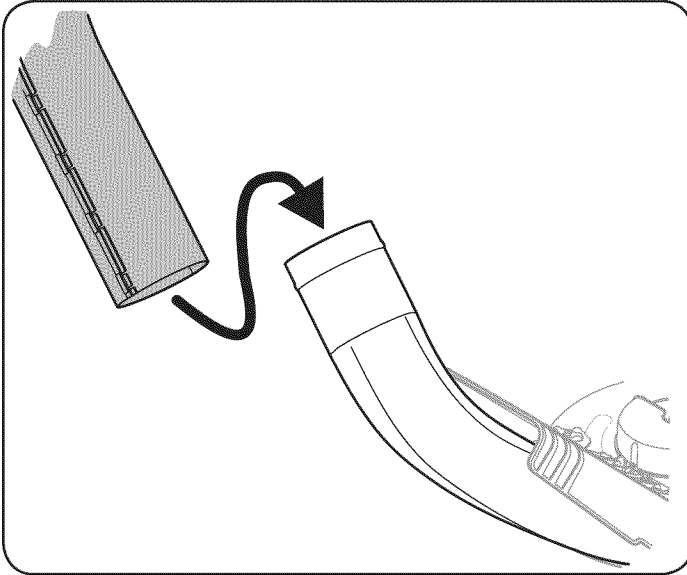

Figure 51
3. With the ability now to wiggle the discharge chute tube back and forth, slide it over the chute elbow mounted on the cutting deck, as shown in Figure 51.